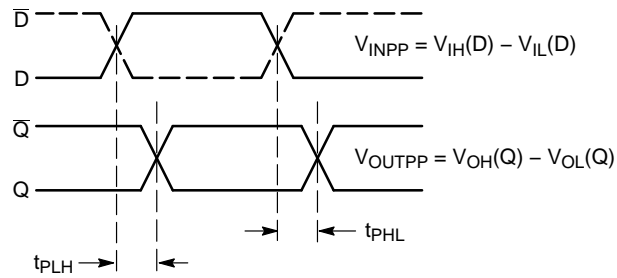

Figure 7. AC Reference Measurement
10. See Figure 7 differential measurement of  $t_{skew} = |t_{PLH} - t_{PHL}|$  for a nominal 50% differential clock input waveform @ 250 MHz.